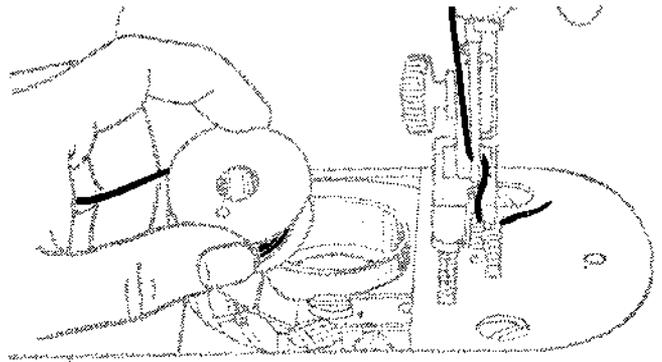

FIG. 23.
- Hold bobbin so that thread leads off in direction shown in Fig. 23.